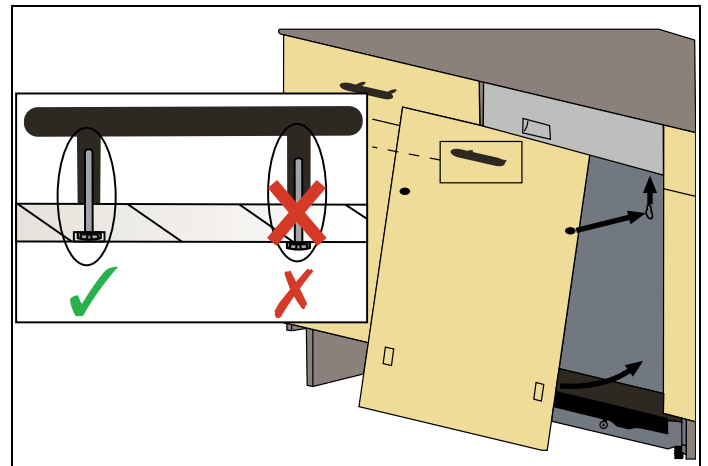

Fig. 26
5) Before mounting the wooden door on the dishwasher, mount the handle on the wooden door as in Fig. 26 .